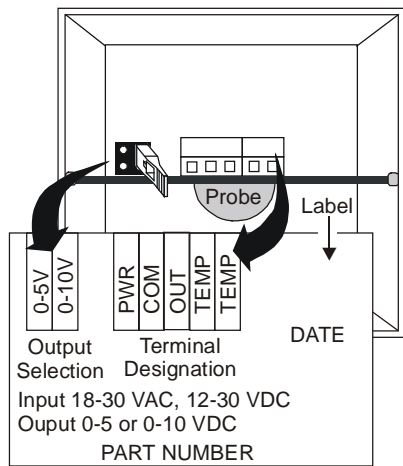

Figure 7: Wiring the Duct Probe Humidity Element
3. Connect the wires to the appropriate terminals of the wiring block. (See Figure 7.)